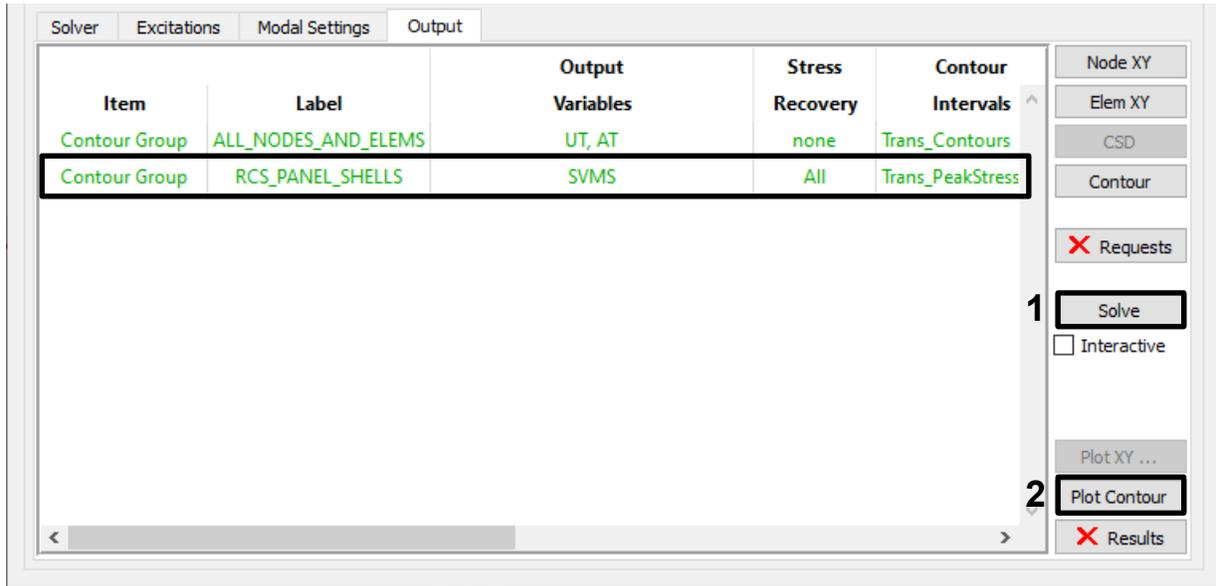
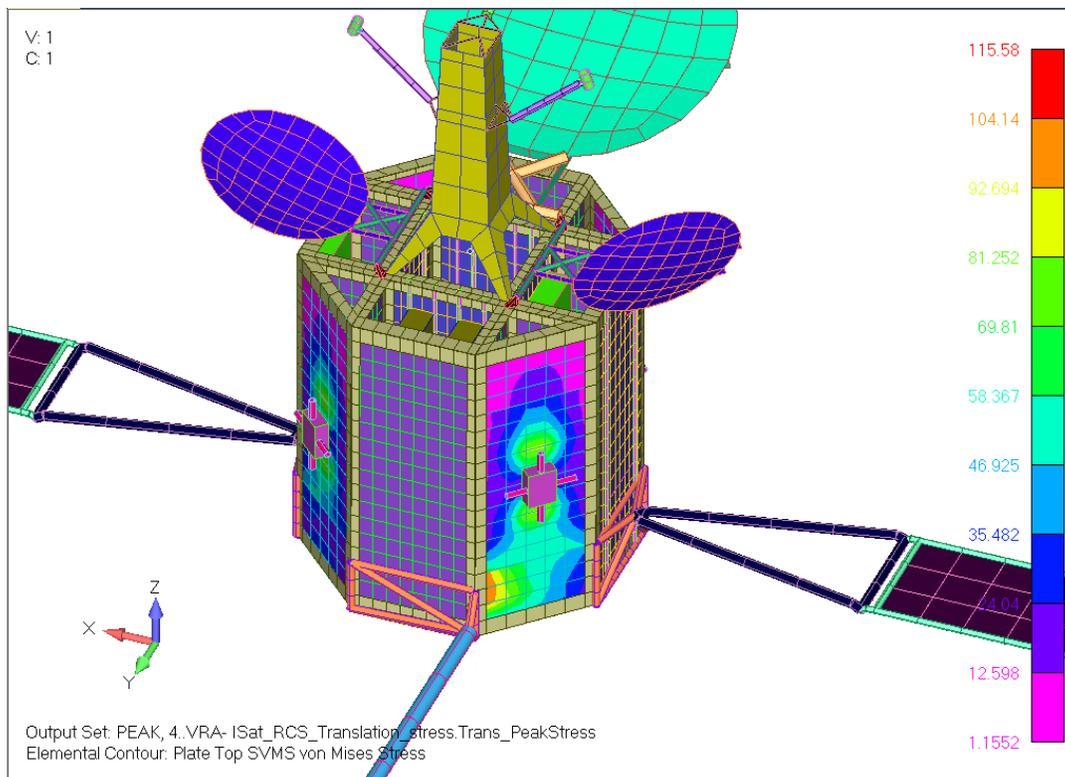
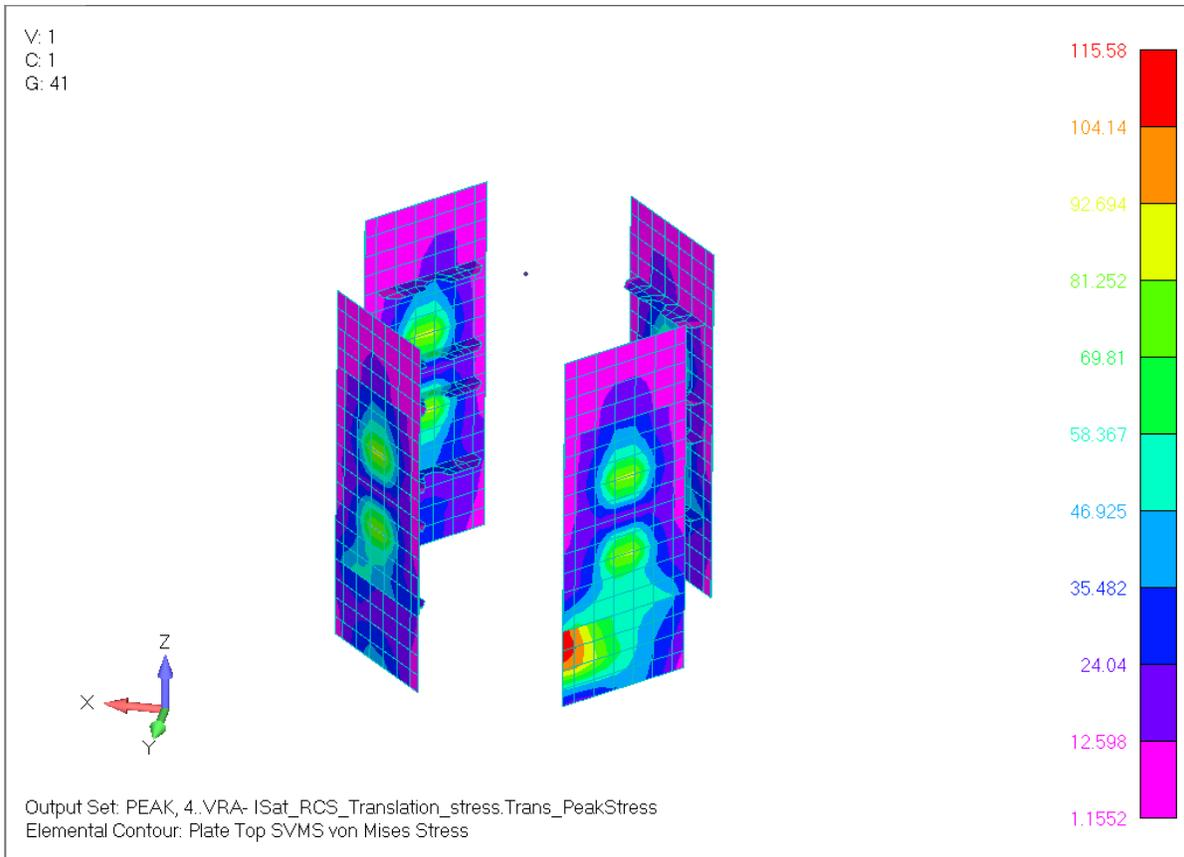

Figure 4-101. Select the RCS Panels contour request and plot its results.
Figure 4-102. Peak von Mises stress contours in RCS panels.
Figure 4-103. Von Mises results with only the RCS panels group displayed.
10. Solve the new contour request. When the solver finishes, select the new contour request in the table, then click **Plot Contour** (Figure 4-101). Vibrata will set Femap to display the results from the selected request (Figure 4-102). Since we only requested stresses for the RCS\_PANEL\_SHELLS group, you may want to display only that group (Figure 4-103).